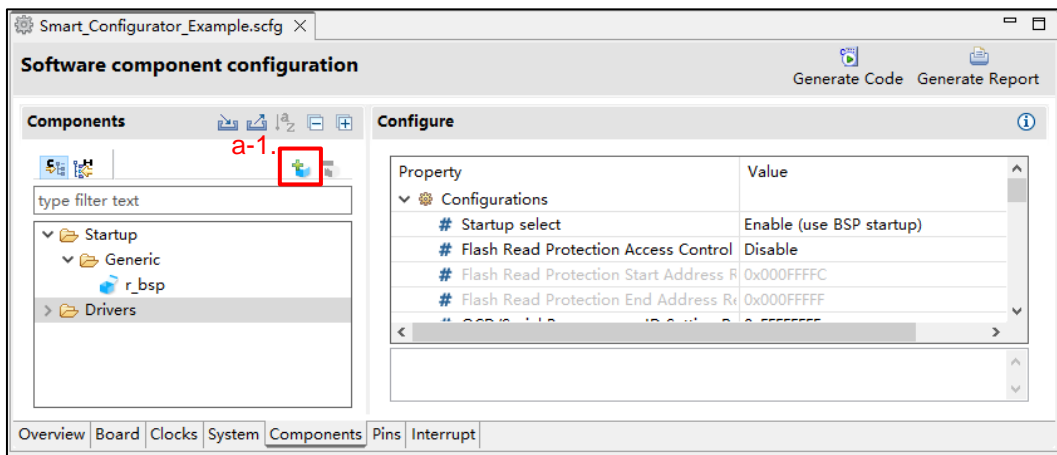

Figure 4-9 Adding a Component
- (1) Click on [Add component] as in Figure 4-9 to open New component dialog.
- (2) Click the [Download RISC-V MCU Software Integration System Modules] link in the [Software Component Selection] page of the [New Component] dialog box to download RISC-V MCU Software Integration System Modules.